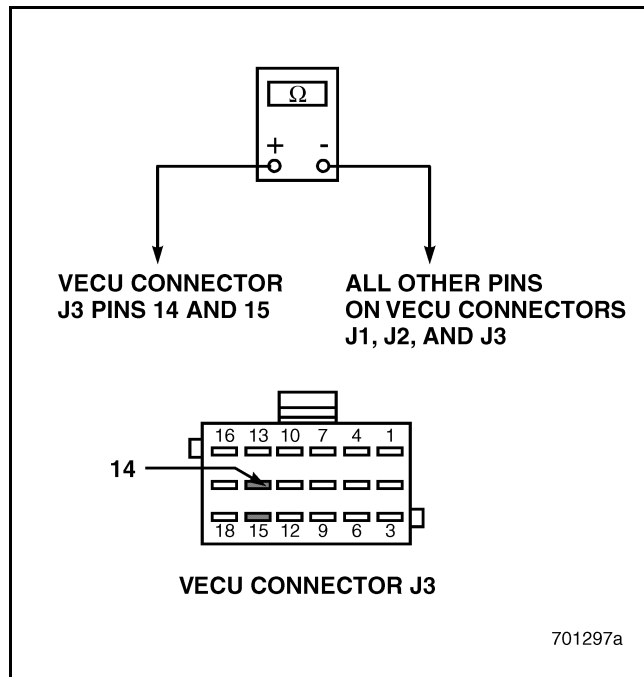

Figure 633
5. Check for continuity between VECU connector J3 pins 14 and 15 versus all other pins on VECU connectors J1, J2 and J3 (see Figure 633).